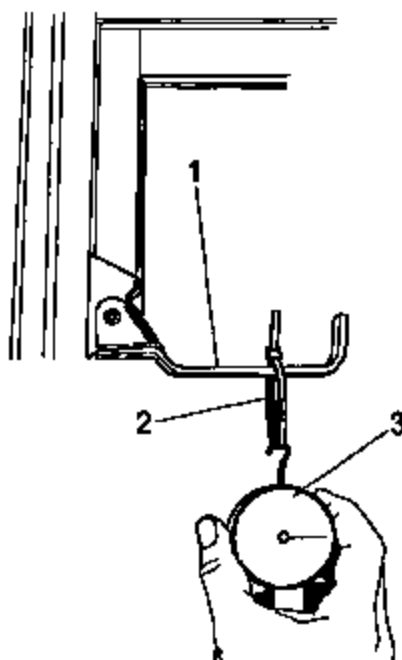

Figure 1-2 Checking Egress Handle Tension
2. Slowly pull the gauge (3) until egress handle (1) releases. See Figure 1-2.